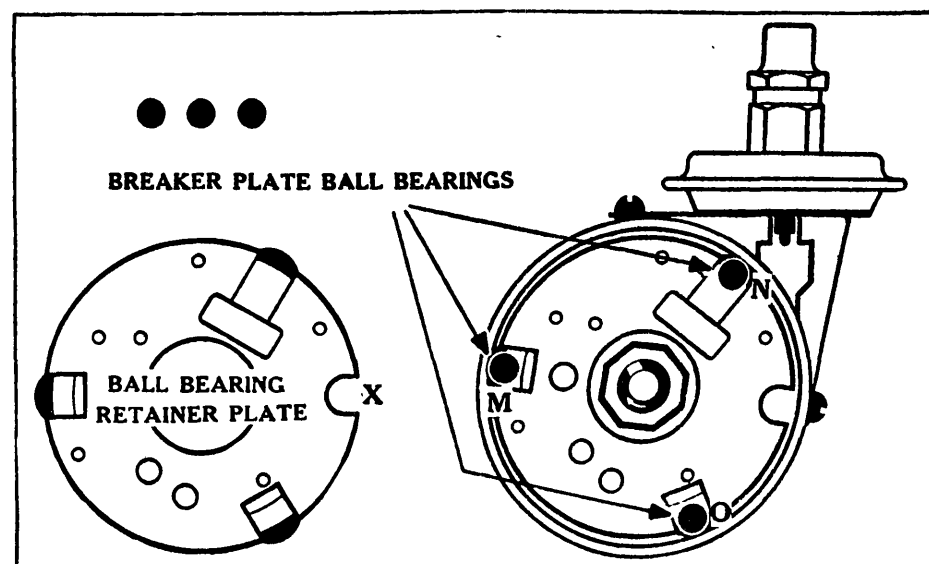

Fig. 8
8. With a pair of long nose tweezers remove the three steel balls ("M", "N" and "O", Fig. 8), and lift the ball bearing retainer plate from the distributor cup.
3. Smear the three steel balls with vaseline, and drop them into place (see Fig. 8).